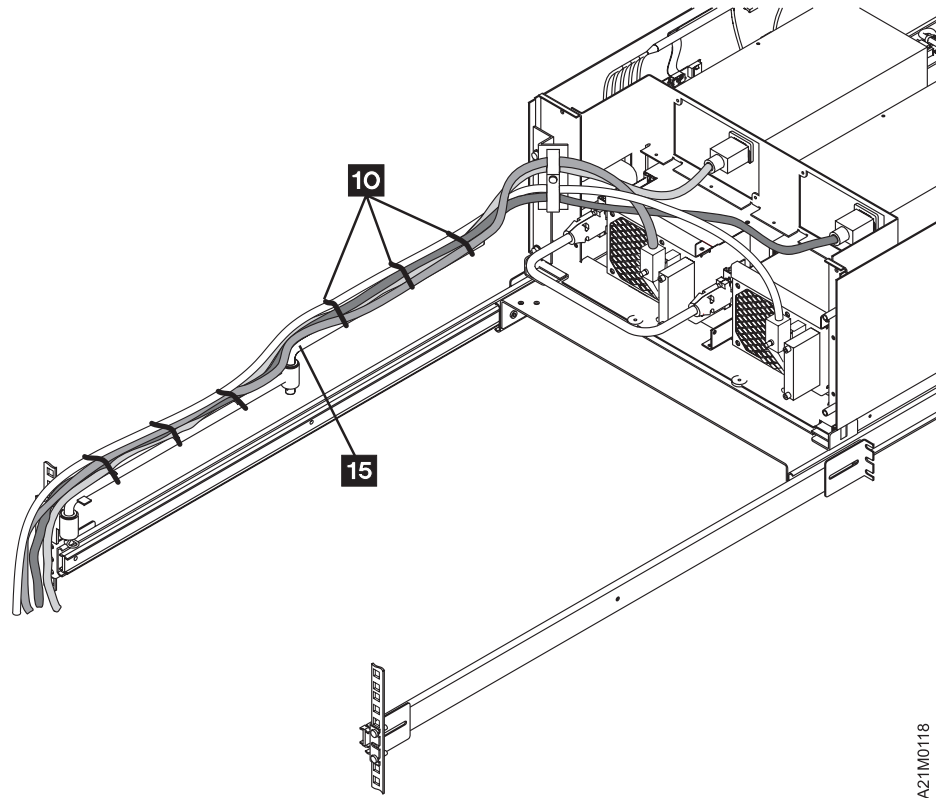

Figure 48. 3570 and Articulated Arm Extended for Model C22 Dual-Drive Dual-Host
- ___ Step 7. See Figure 48. Push the 3570 completely forward so it will lock into position, then extend the articulated arm to its full length toward the 3570 library.